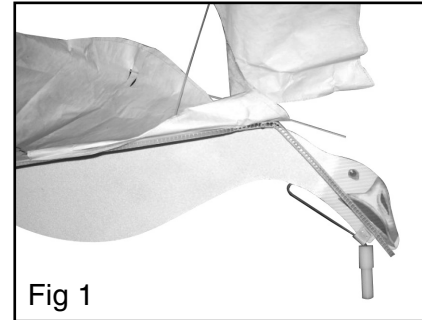

Fig 1
Step 1: The flyer comes in 2 parts. The top has the wings attached and the body has the nose piece attached. There is a notch in the body to accept the slit in the top. Insert the nose of the body into the slit making sure it seats all the way. After that, move the rest of the head into the slit. The top panel will bend to conform to the shape of the body. Figure 1 shows the top and body panel in the correct position. Once you have the top panel and body in the correct position you need to use the 2 screws provided and attach the 2 panels together. Figure 2 shows the correct positioning of the screws. Once the screw has pierced through the top panel, you can make sure that it hits the middle of the body panel.